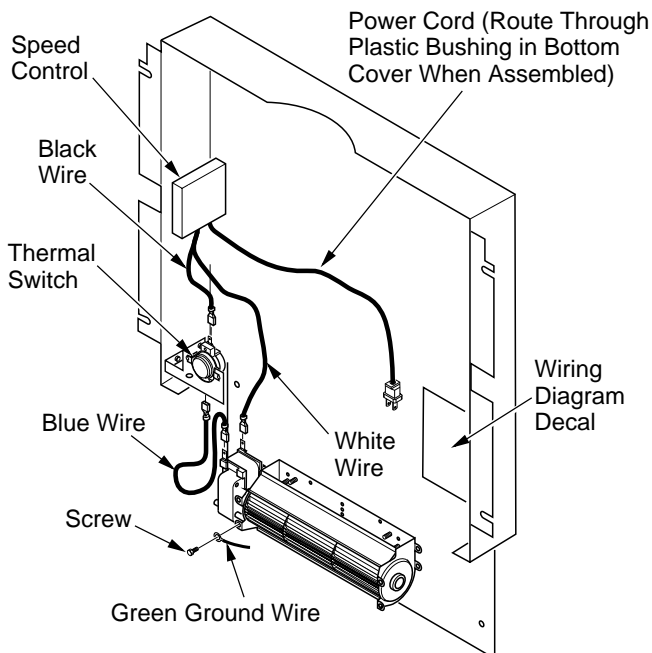

Figure 18 - Blower Wiring Layout (Thermostat Blower Shown)
- Place the green ground wire between the bottom hole on the blower assembly and the hex screw and tighten (see Figure 18).
- Connect the blue wire on the blower assembly to one side of the thermal switch (see Figure 18).
- Connect the black wire to the other side of the thermal switch (see Figure 18).
- Connect the white wire to the other terminal on the blower motor assembly (see Figure 18). Make sure the thermal switch has been properly installed to fit against back of fireplace insert after the rear cover assembly has been reinstalled.
- Peel off the backing paper and stick the supplied wiring diagram decal on the inside of rear cover as shown (see Figure 18).